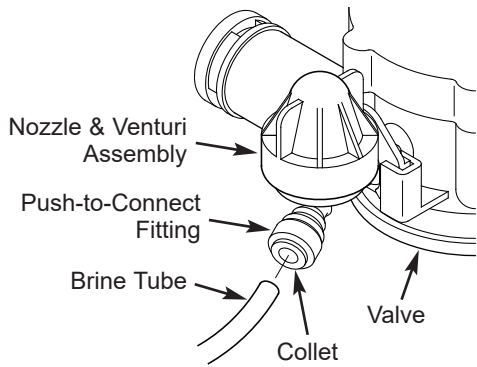
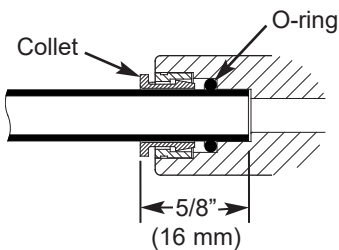

FIG. 8
FIG. 10
- iii. Connect brine tube by inserting end into push-to-connect fitting on the valve's nozzle & venturi assembly (Figure 8). Push it until at least 5/8" (16 mm) of tube is inserted (Figure 10).